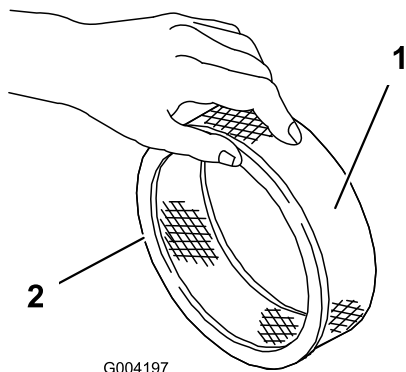

Figure 146
- Inspect the paper filter for tears, an oily film, and damage to the rubber seal (Figure 146).